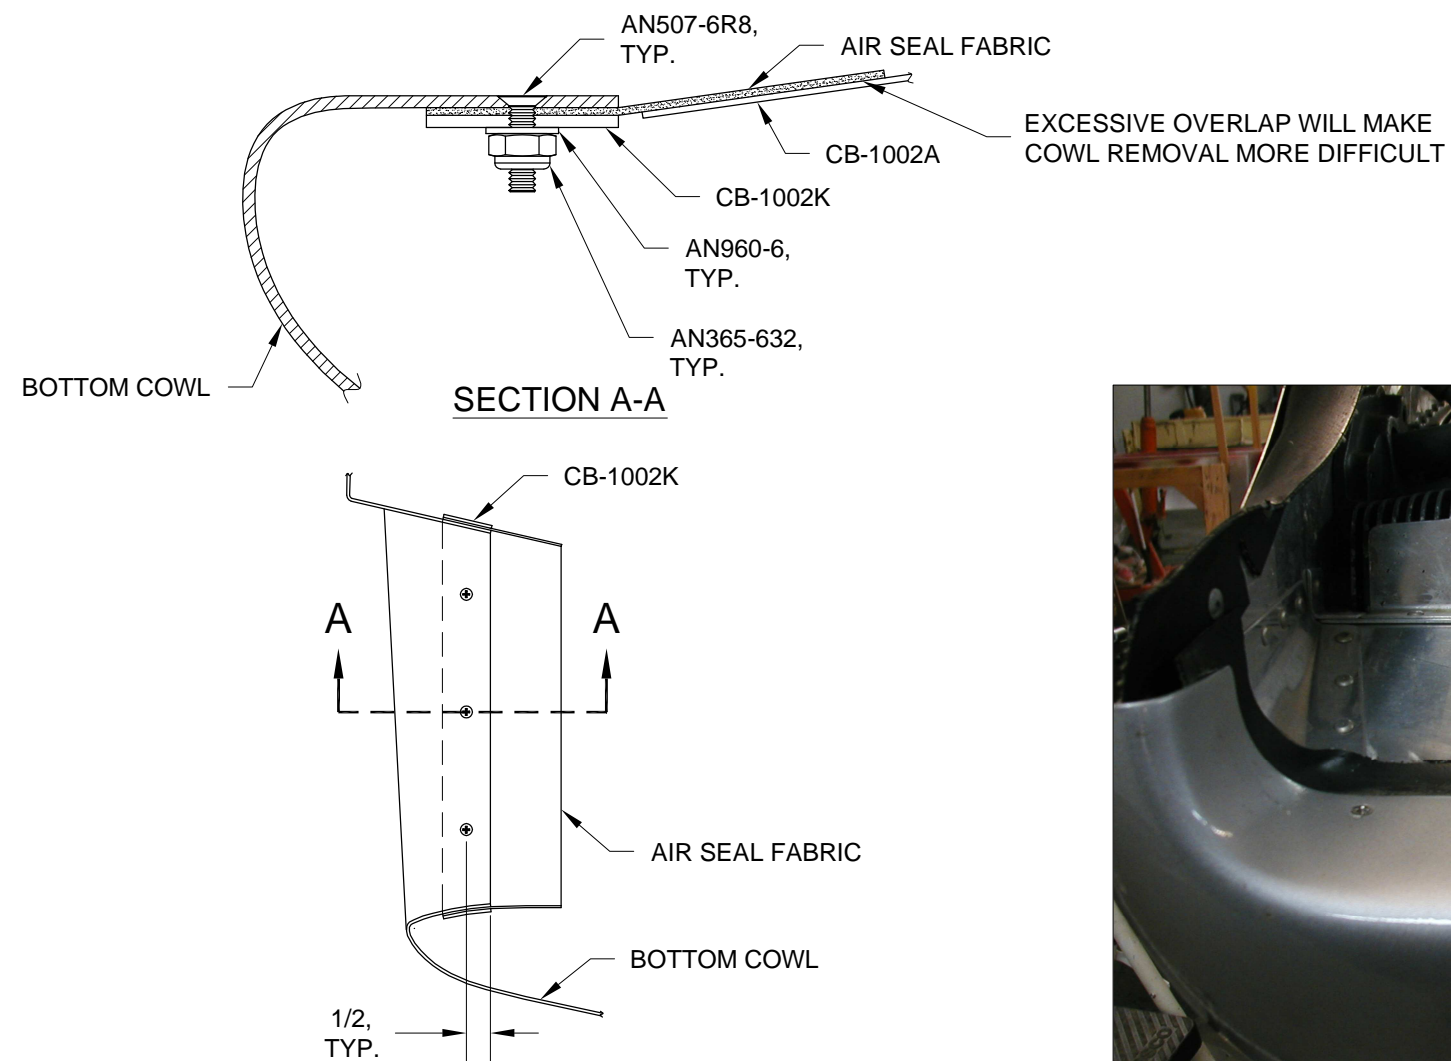

FIGURE 2: TOP VIEW AIR SEAL FABRIC INSTALLATION
Step 6: Use the hardware shown in Figure 2 to attach the CB-1002K Clamping Strip and the Air Seal Fabric to the Bottom Cowl air inlet.